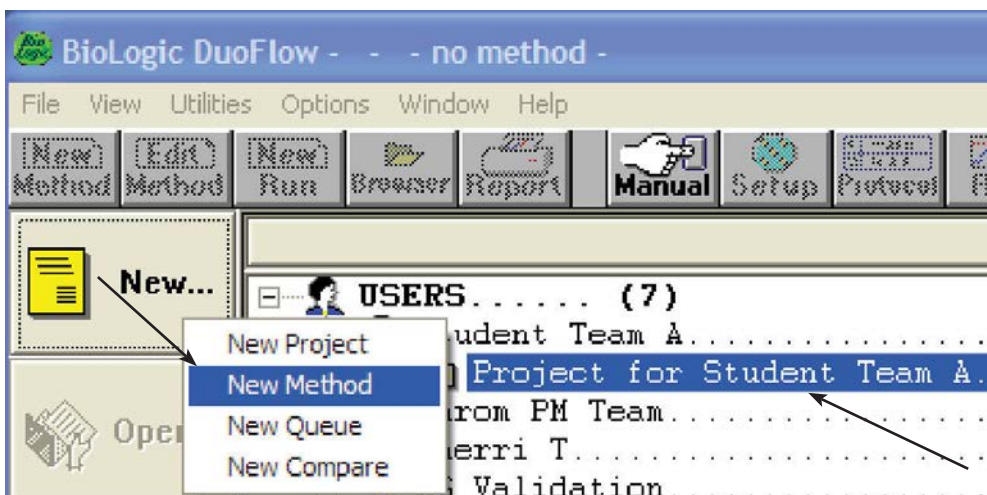

Figure 8.17. BioLogic DuoFlow system New Method creation.
4. Click on the Project folder icon that is displayed below your name until the line is highlighted in blue (Figure 8.17).